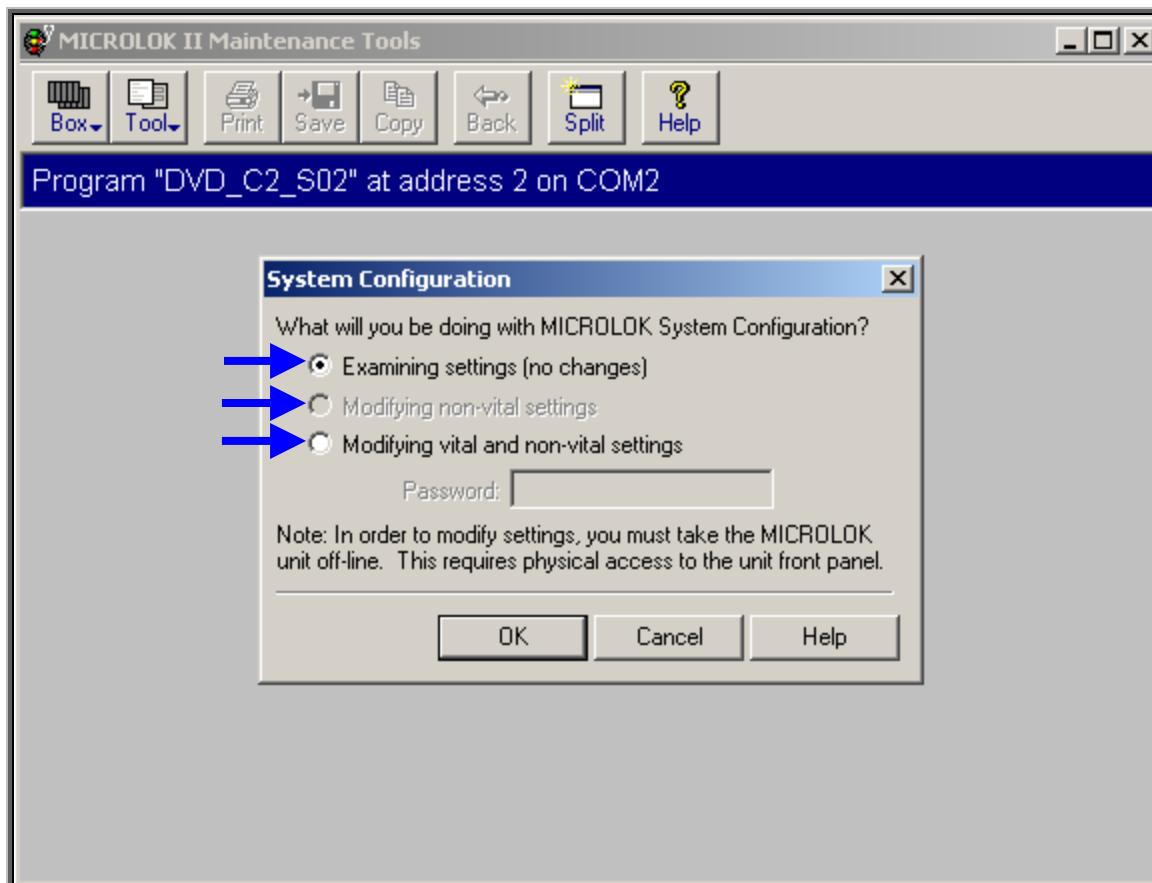

Figure-7.3.3
- ❖ “System Configuration” dialogue box appears as shown in Figure-7.3.3.